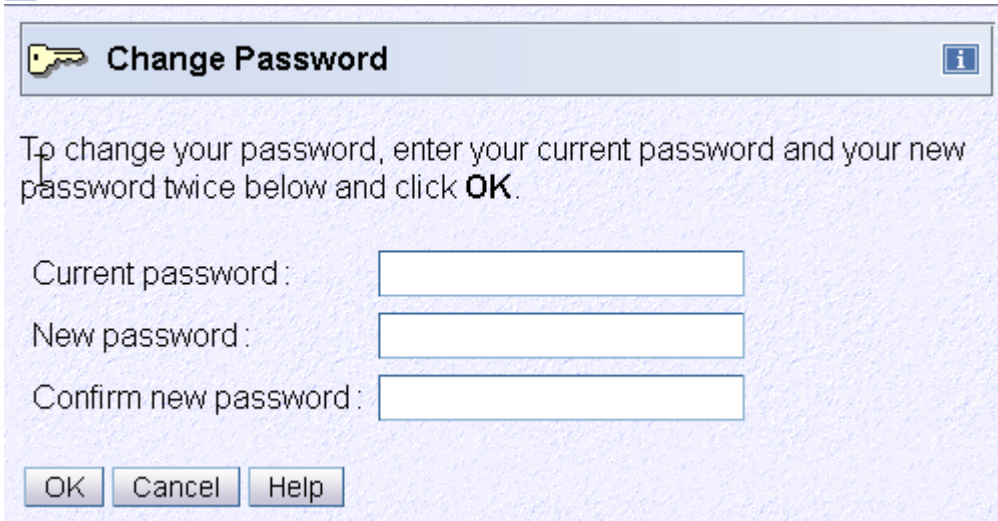

Figure 3. Context sensitive help not enabled
1. Click on the blue **i** that is displayed in the upper right corner of the task window (see Figure 3 on page 15). Every time a new task window opens you need to click **i** to enable context sensitive help.